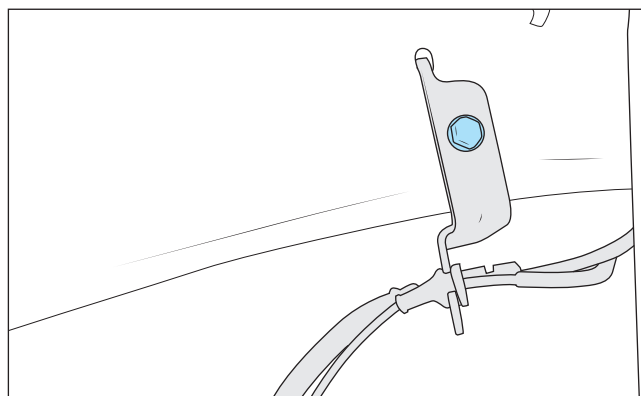

Figure 15
7. Unbolt the brake line brackets from the frame (fig. 15).